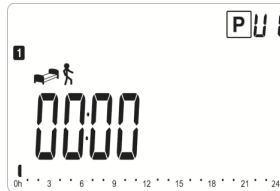

Fig. 21
- 4) *press the button (OK) for at least 1 second;*
- 5) *press (OK) to confirm your choice; the screen in Fig. 21 will appear.*